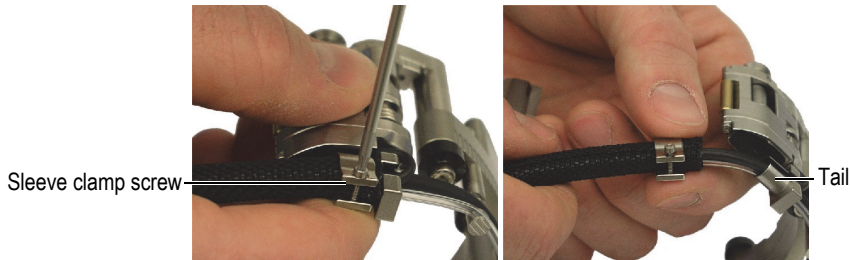

Figure 2-1 Removing the sleeve clamp
- a) Using the T6 Torx screw driver, remove the sleeve clamp screw, and then slide the protective sleeve and sleeve clamp away from the tail (see Figure 2-1 on page 32).